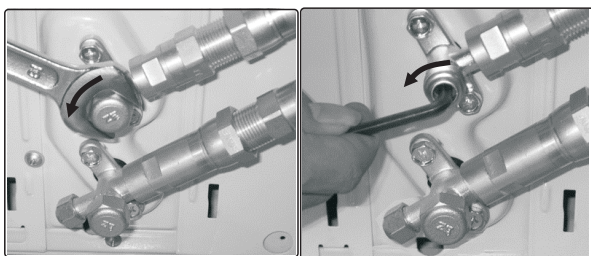

Fig.6.5
5. Now remove the cover on the top valve using a 19 mm open-ended spanner. Open the valve by turning it counter-clockwise as far as it will go using a 5 mm Allen key. The valve is now open. If the valve is not opened fully, the system may malfunction and suffer damage. Screw the cover back on to the top valve and tighten it well to ensure that it is properly sealed. See Fig.6.5.